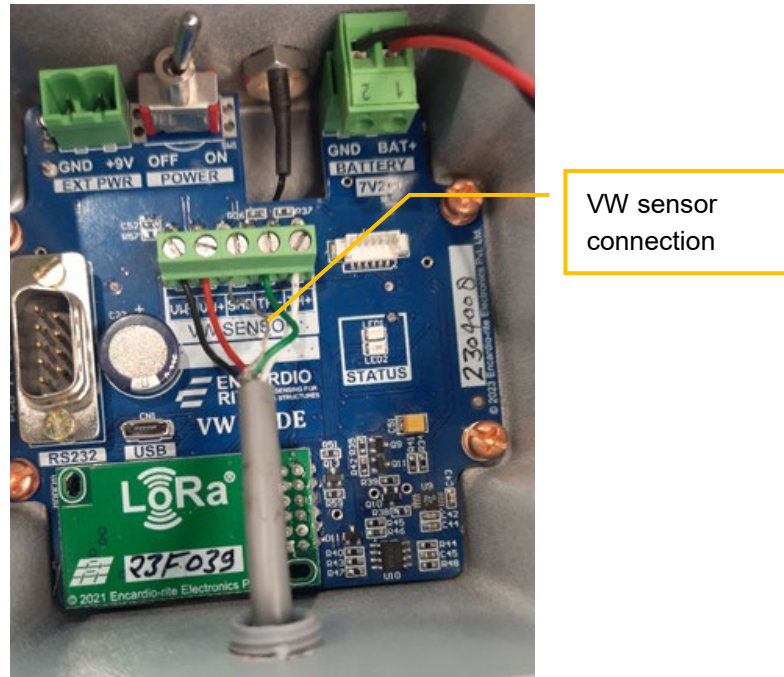

Figure 6-3 VW sensor connection to EWN-01V single channel vw node
- Connect the vibrating wire sensor cable to designated connector in node (VW+,VW-, SHD, T+,T-) as shown in figure 6-3.